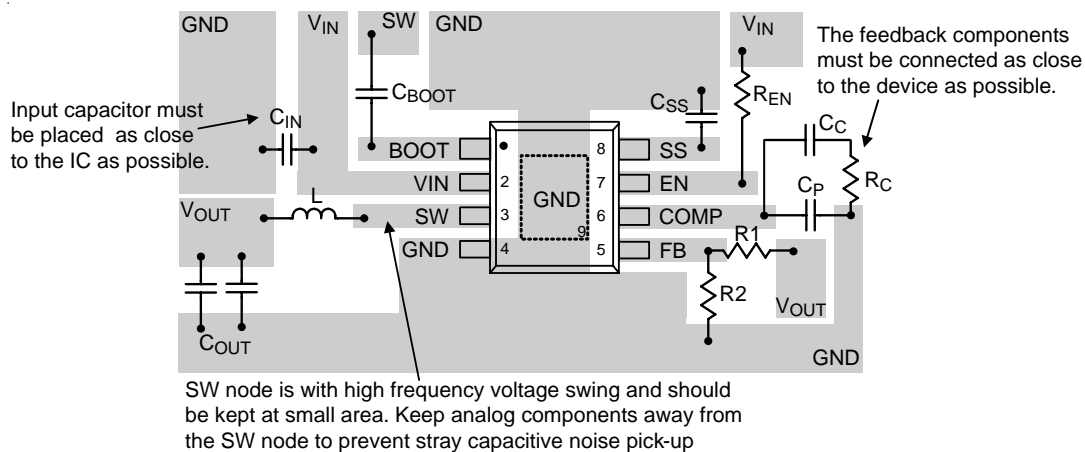

Figure 7. PCB Layout Guide
- ▶ An example of PCB layout guide is shown in Figure 7 for reference.